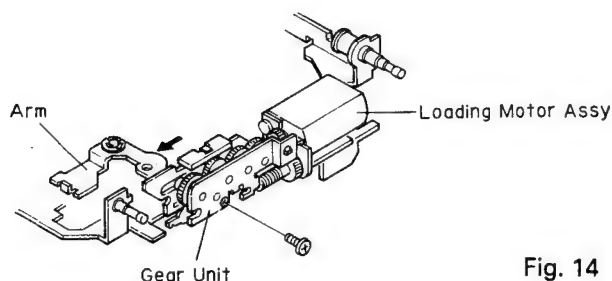

Fig. 14
10. Turn the Loading gear to put into the ejection. (Fig. 14)
11. Remove one of the screws and remove the gear unit pressing the arm slightly toward the arrow. (Fig. 14)